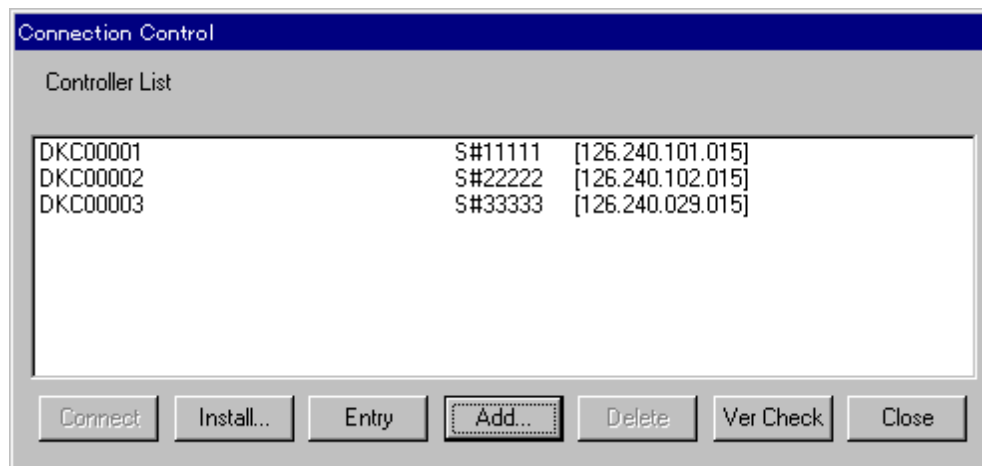

Figure 3.7 Connection Control Panel
The Connection Control panel (see Figure 3.7) allows an administrator to add and delete controllers. To open the Connection Control panel, select the **Controller...** button on the Remote Console Main panel.
1. On the Remote Console Main panel, select **Controller...** to open the Connection Control panel (refer to Figure 3.7).
The Connection Control panel (refer to Figure 3.7) displays the registered 9900 subsystems and allows you to connect to a 9900 subsystem. To access the connect function, open the Connection Control panel by selecting the **Connect...** button on the Remote Console Main panel. The connect function is available to all users.
1. On the Remote Console Main panel, select **Connect...** to open the Connection Control panel (refer to Figure 3.7).